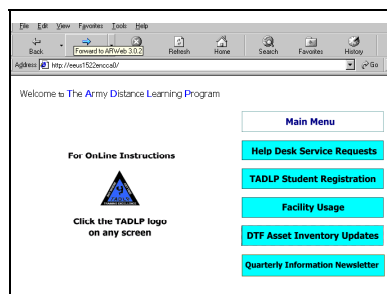

FIGURE III.1
- 2) The Main Menu screen is displayed. (see figure III.1)